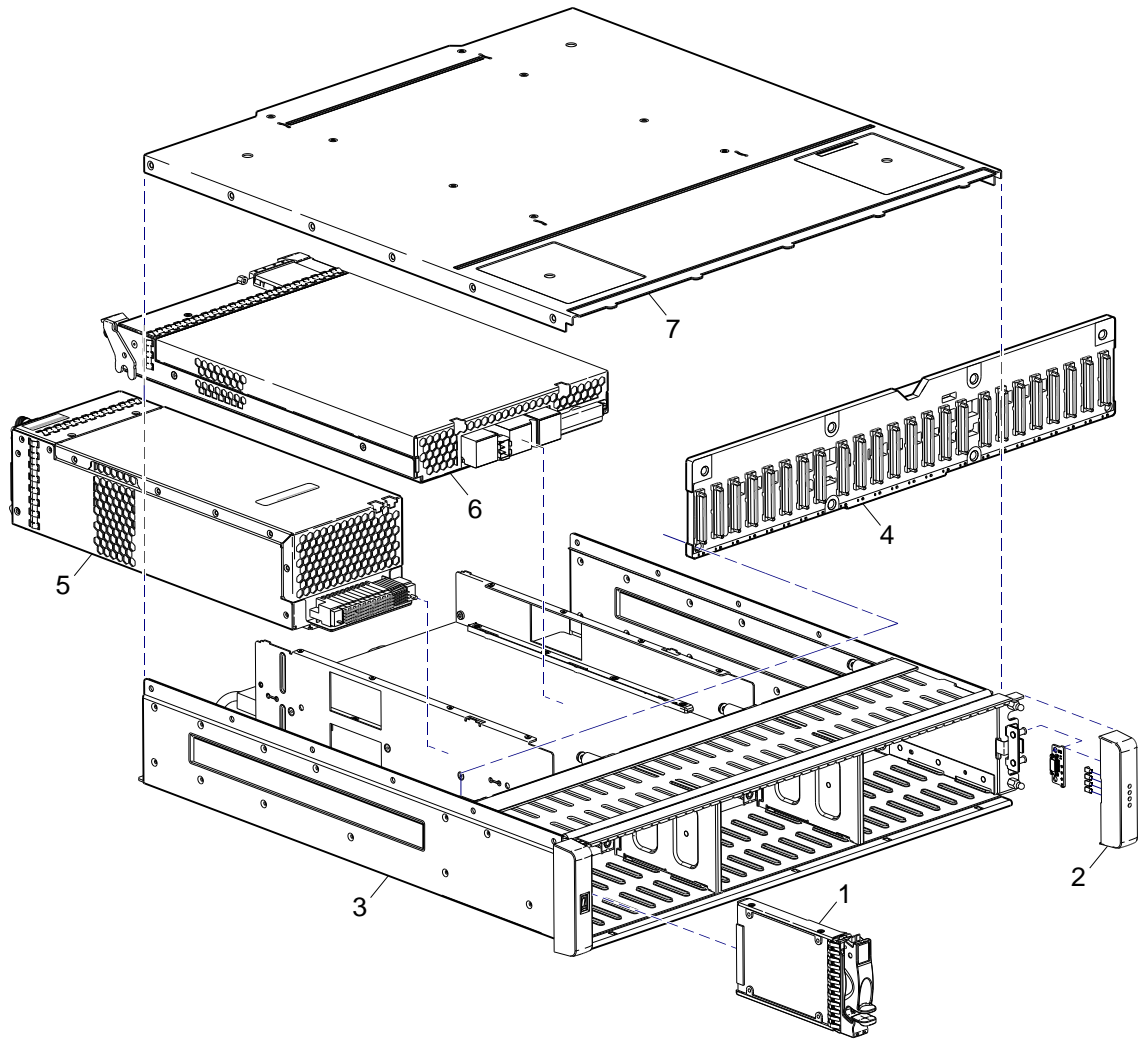
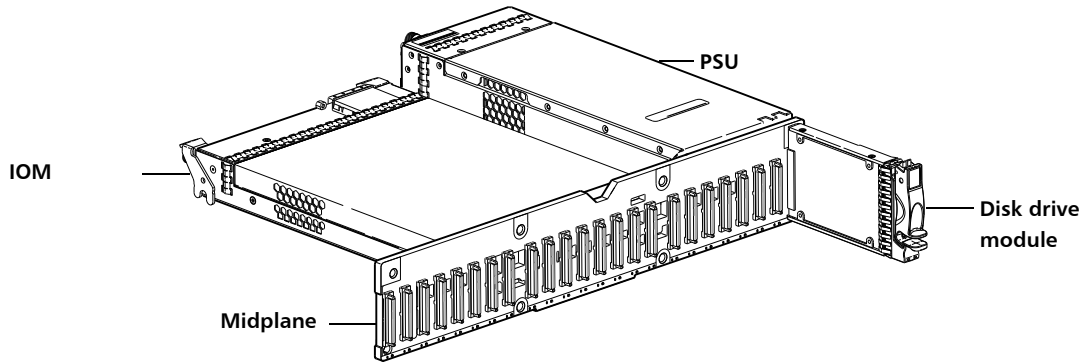

Figure 28 Controller enclosure exploded view (2U24)
Figure 30 Controller enclosure architecture — internal components sub-assembly (2U24)
- Exploded view: Figure 28 on page 223
- Internal components sub-assembly: Figure 30 on page 224
Figure 28 through Figure 30 are shown with the enclosure bezel removed